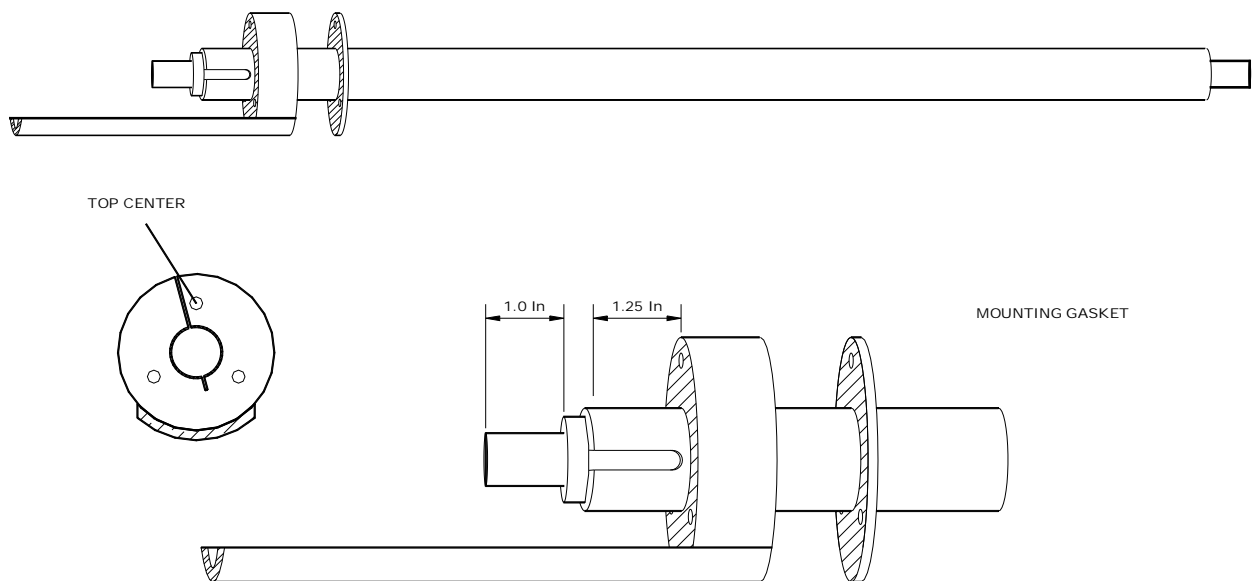

Figure 3.3.1 Dilution Probe Barrel Assembly
- A) Inspect the probe barrel assembly for proper flange spacing and orientation (factory set) (see Figure 3.3.1 and 7000 series drawings).